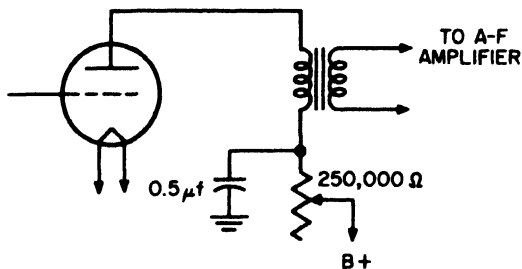

**Fig. 24-1.** *Rheostat in the filament circuit used to control volume.*
**Volume Control in Battery Sets.** Volume control for battery-operated sets is a relatively simple matter. A simple device is a rheostat of from 10 to 30 ohms connected in series with the A battery and the filament of the radio tube, as in Figure 24-1.